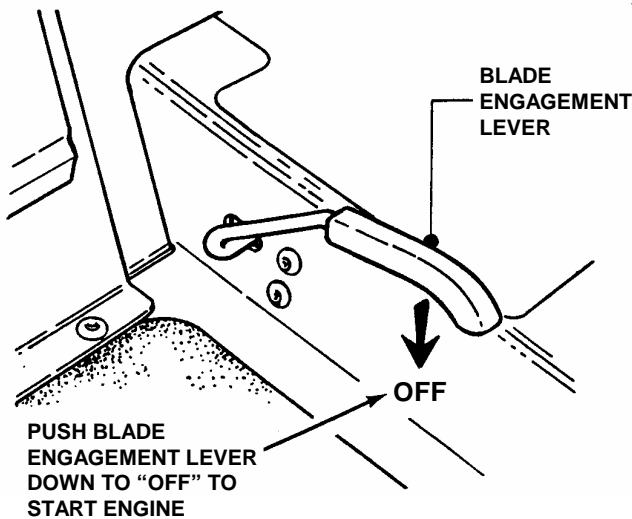

FIGURE 2.4
2. Push blade engagement lever down to the "OFF" position. See Figure 2.4.